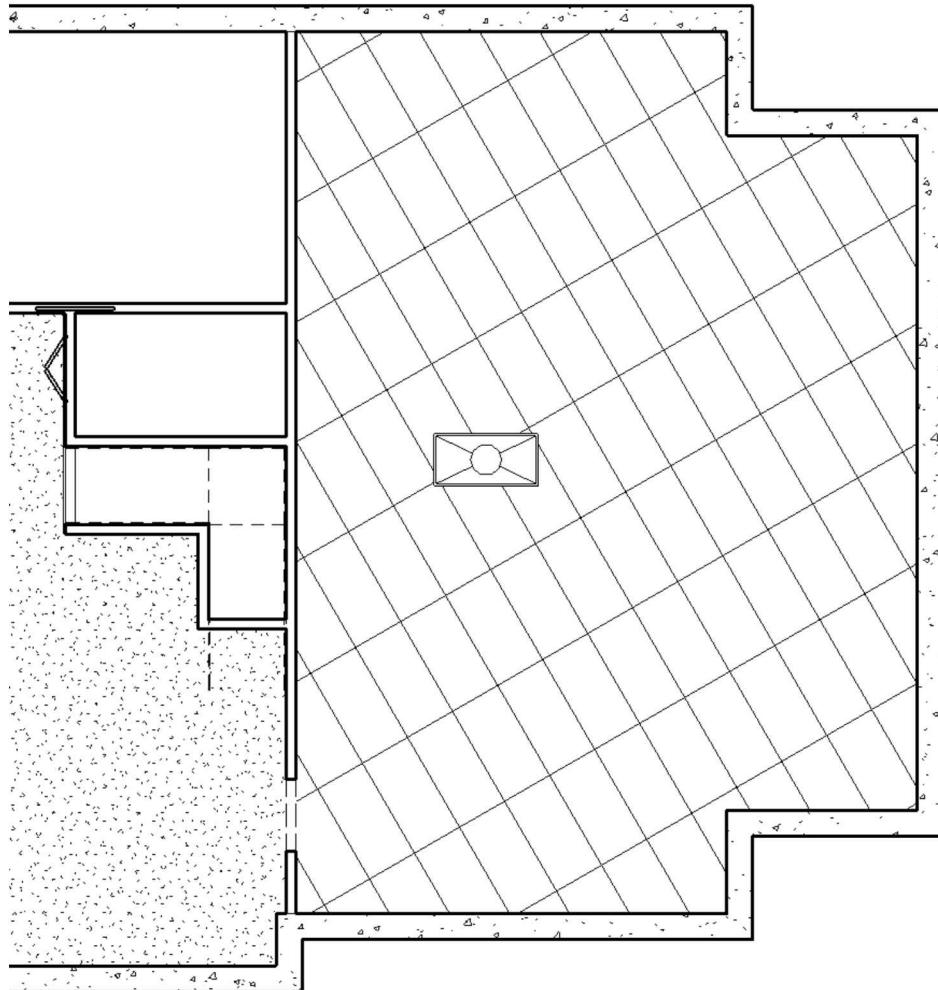

FIGURE 9-3.4 Basement ceiling plan; light fixture added
7. Now place another **2x4 light fixture** as shown in **Figure 9-3.4**.